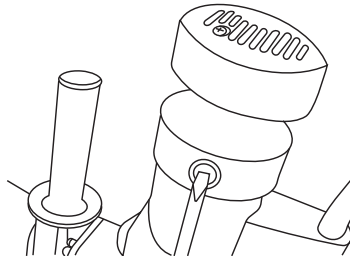

Fig 5
- Replacing carbon brushes.(Fig5)